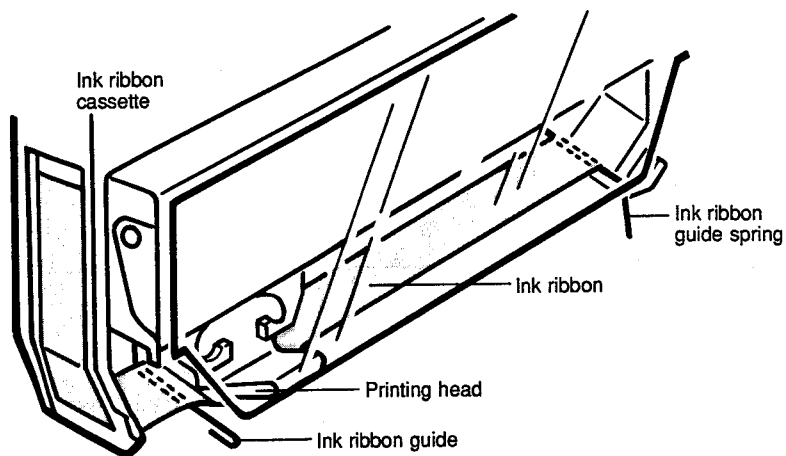

Fig. 1
- Run the ink ribbon over the ink ribbon guide spring, under the printing head, and over the ink ribbon guide. (See Fig. 1.)